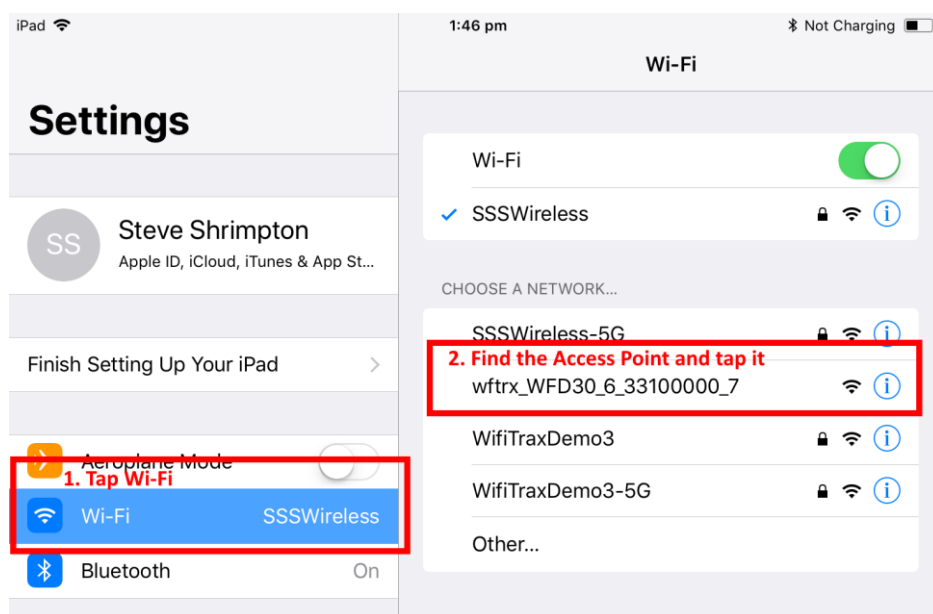

Figure 5 Connecting to the WFD-30 Wi-Fi Access Point
- (3) Before opening the app, make sure your WFD-30 is connected, your NCE Command Station is powered up and there is a locomotive on the track with a known DCC address. Both the red power LED should and the blue Cab Bus indicator LED should be alight.
- (4) Now run the Settings app on your iPhone (or iPad etc.):
- (5) Tap Wi-Fi on the left-hand menu. You should see a collection of available Wi-Fi Access Points on your right. Look for one that is of the form wftrx_WFD30_6_XXXXXXX_7, where XXXXXXXX is the serial number of your unit that appears on its bag and the unit itself. Tap that Wi-Fi Access Point as Figure 5.